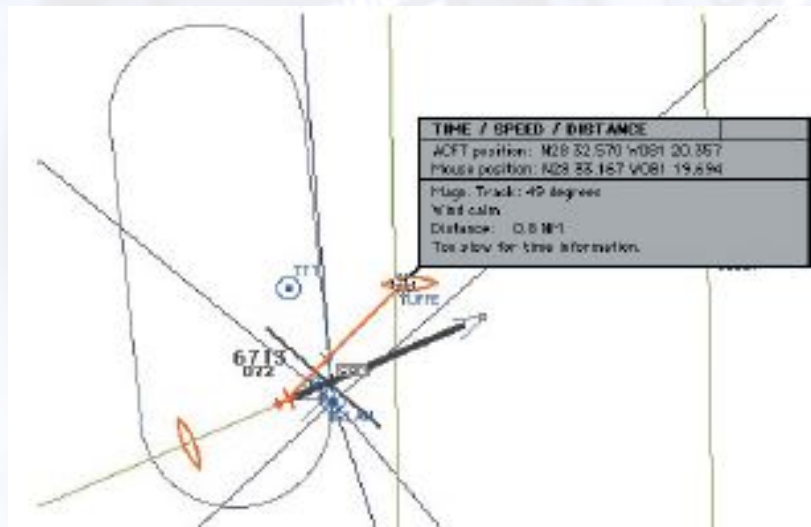

Figure 3.21: Heading / Distance Cursor
3. Click and hold anywhere on the Map Page. An orange course line representing the desired track from the aircraft symbol to the selected point will appear. In addition, the time / speed / distance information box appears as shown in figure 3.21.